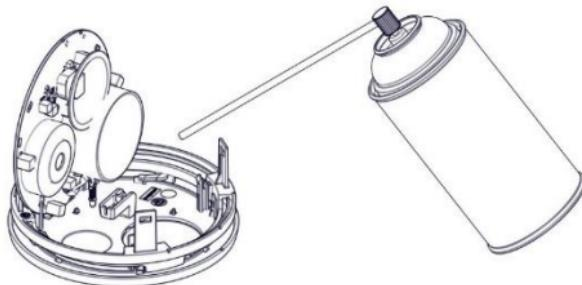

Figure 16
5. Use an Air Duster to clean debris, dust, and dirt that accumulates mostly around the smoke chamber (see *Figure 16*).